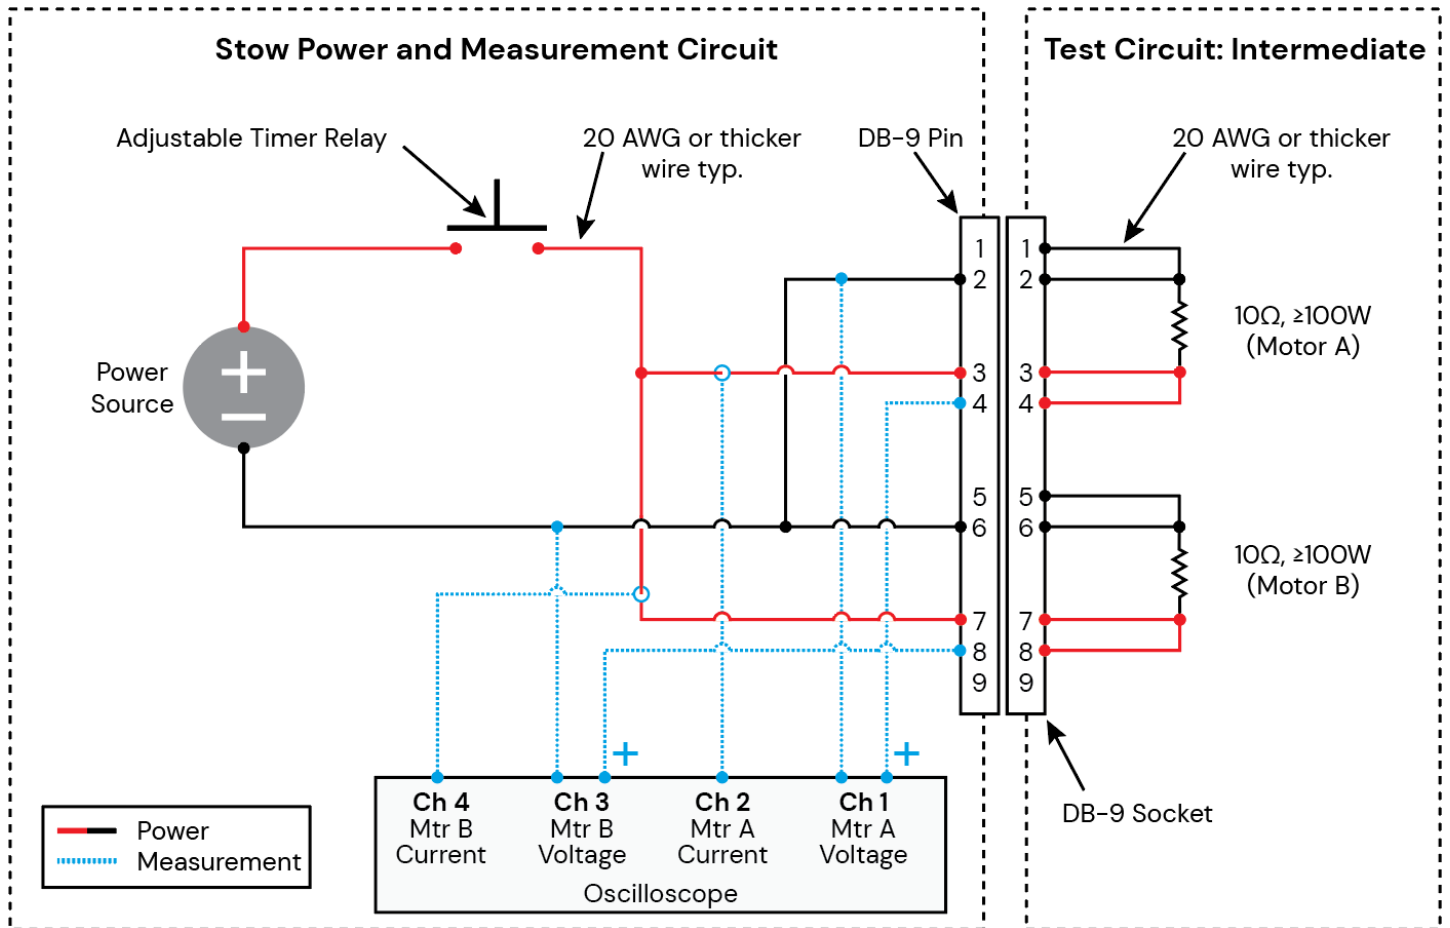

Figure 9-2: Stow test circuit #2
9.2.1	Set up the Test Circuit: Intermediate per Figure 9-2.